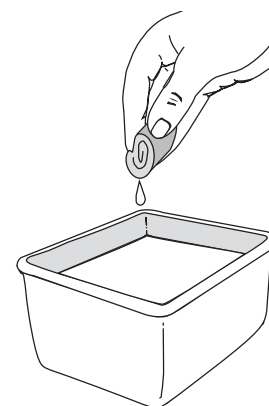

Figure 28
3. Wash the filter in detergent and water. See Figure 28. Rinse the filter thoroughly. Squeeze out excess water. Allow it to dry completely.